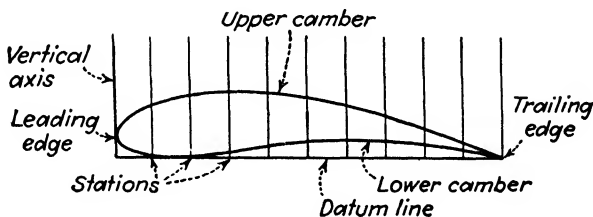

Fig. 175.
*Datum line* is the base line or horizontal axis (see Fig. 175).